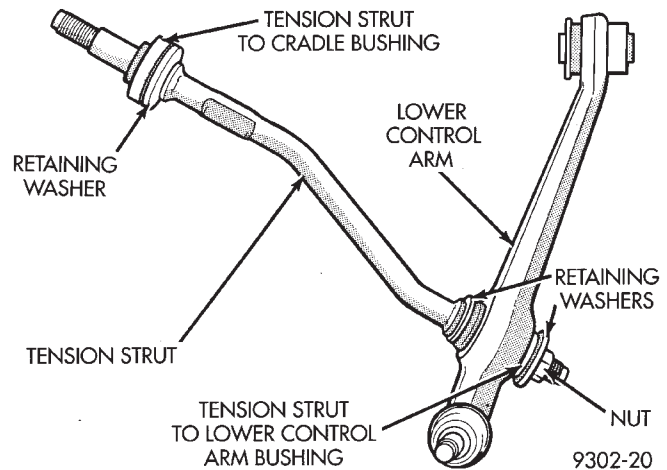

Fig. 19 Tension Strut And Lower Control Arm Bushing
(1) Remove lower control arm and tension strut as an assembly from the vehicle. See Lower Control Arm Removal in this section of the service manual for the required removal procedure.
(2) Separate the tension strut from the lower control arm assembly (Fig. 19).